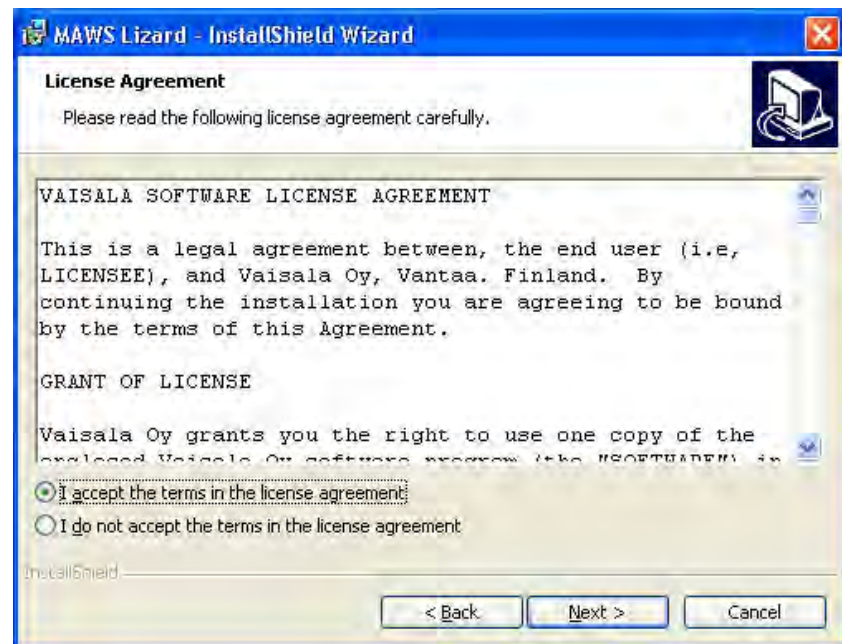

Figure 2 License Agreement Window
3. Read the license agreement presented in Figure 2 on page 27 and accept it. Click **Next** to proceed.